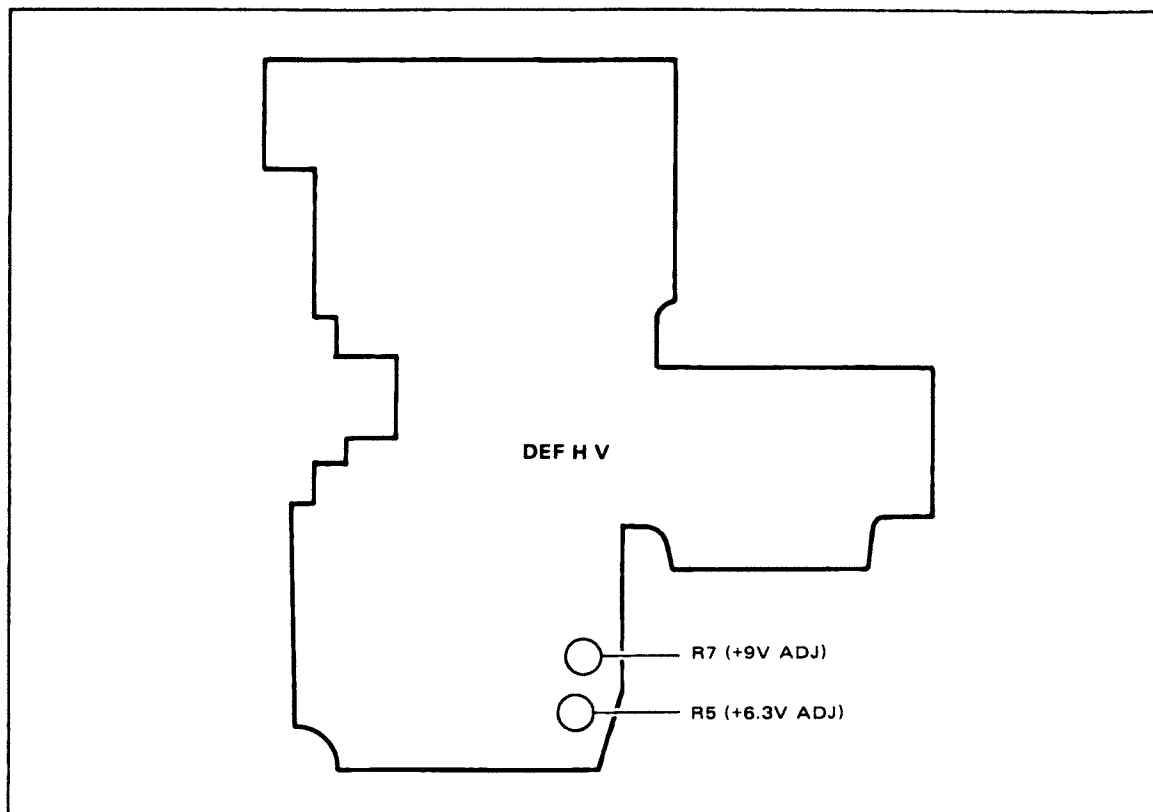

Figure 5-8. Deflection HV PWA
- STEP 1 Connect DVM probe to terminal 4 of P12 (+9V) on Deflection HV PWA and adjust potentiometer R7 for $+9V \pm 0.01V$ (Figure 5-8).
- STEP 2 Connect DVM to terminal 2 of P12 (+6.3V) on Deflection HV PWA and adjust R5 for $+6.3V \pm 0.01V$ (Figure 5-8).